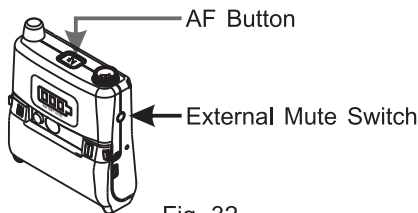

Fig. 32
(E) Mute Mode Setting, Fig. 32:
- (1) Press AF button to activate mute mode and the indicator dims. All the operations are the same as default mode.
- (2) Press AF button again to deactivate the mute mode and the indicator lights up.
(F) External Mute Switch connector, Fig. 32: